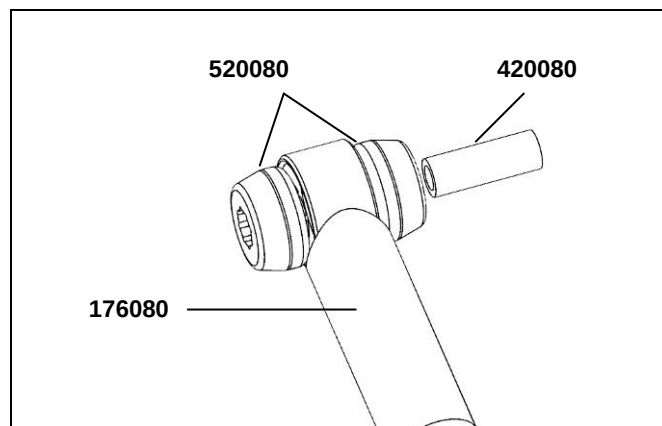

Figure 1
- ☐ Press the lubricated bushings into one end of a new Rancho suspension link (176080) as shown in figure 1.